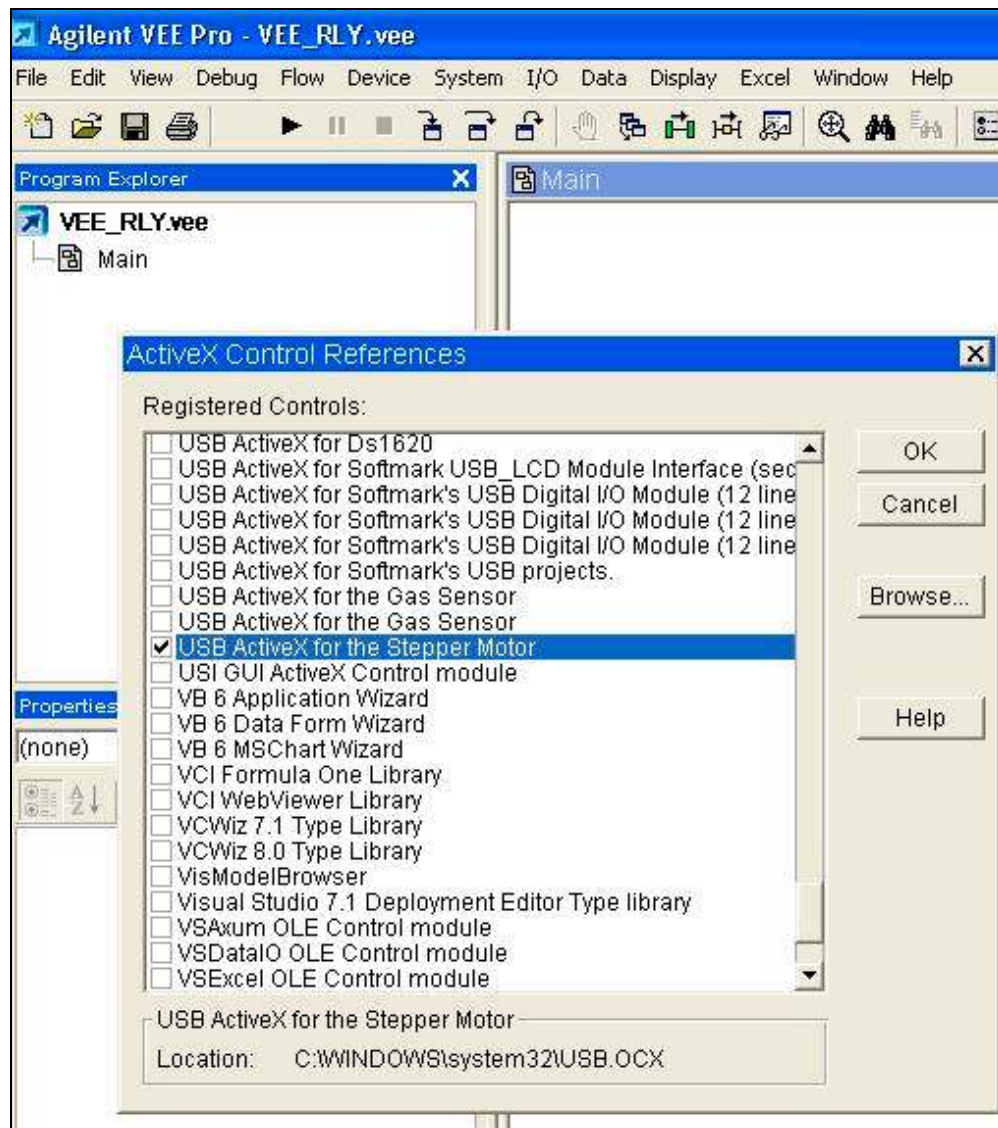

Figure 2.
3. Now you can browse for USB.OCX (your USB.OCX should be in c: windows\system32 directory or just select it from the list. See Figure 2 below.